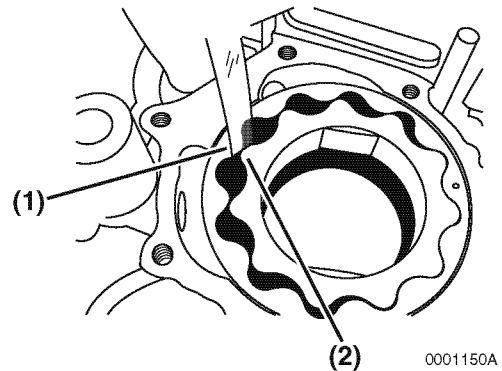

Figure 9-9
Determine the outer rotor to inner rotor tip clearance. Insert a feeler gauge between the top of an inner rotor tooth (Figure 9-9, (1)) and the top of an outer rotor tooth (Figure 9-9, (2)) and measure the clearance.